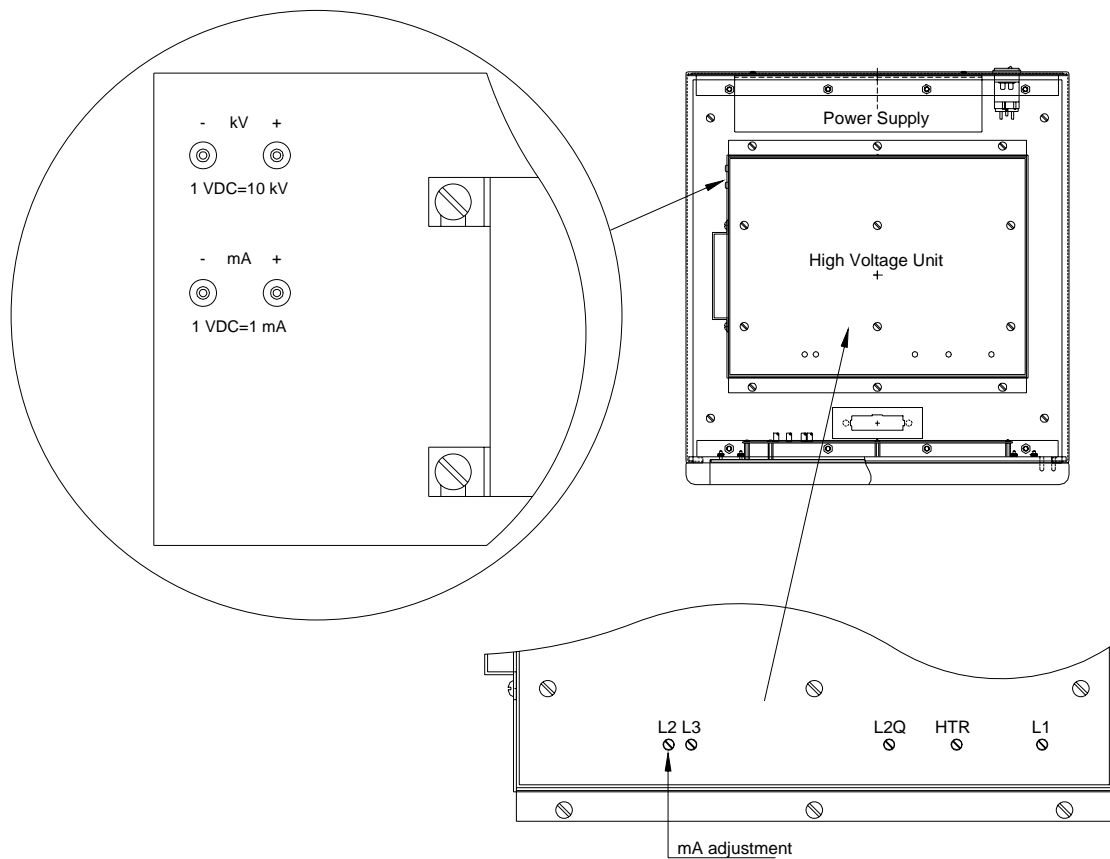

Figure 6-10. mA Calibration
1. Connect a digital voltmeter to the mA calibration points on the side of the high voltage unit as shown in Figure 6-10.
If the voltage is not within the range specified, adjust potentiometer R30 on the Gun-board. The potentiometer can be reached through a hole in the top cover for the high voltage unit and is marked as L2 in Figure 6.10. Use an insulated screw driver or a special trimmer adjustment tool. After the adjustment, check the reference voltage at 10, 20 and 35 kV.